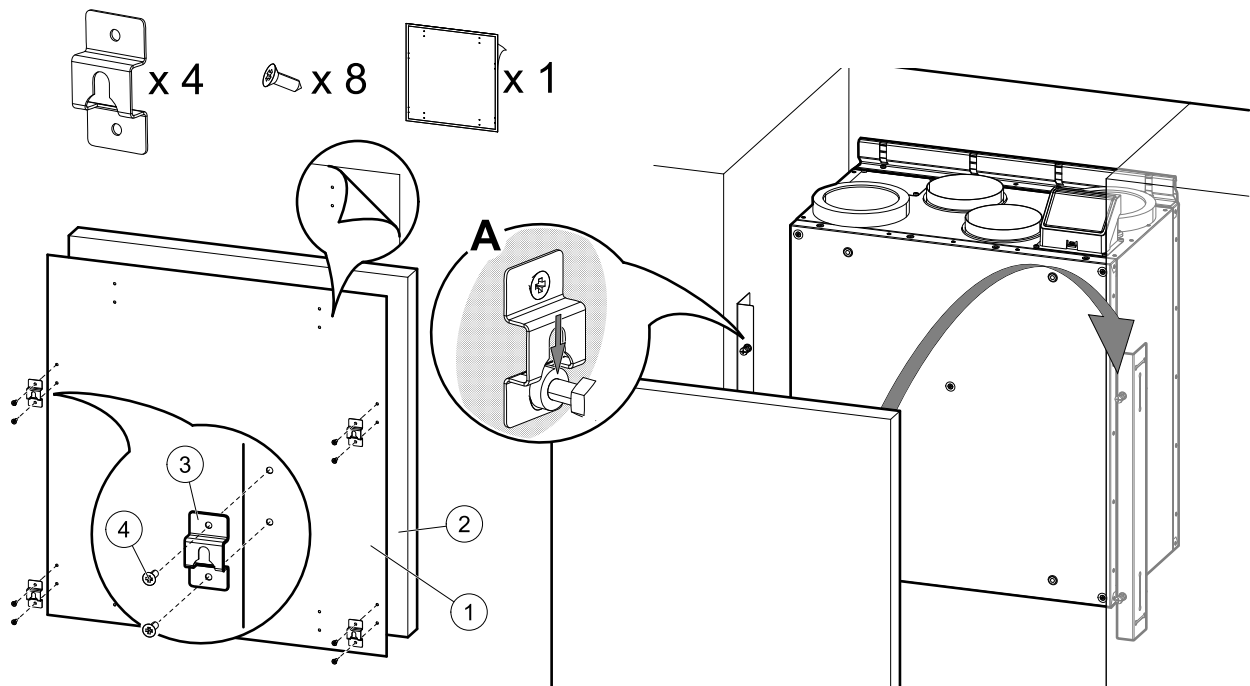

Fig. 18 Installation of hooks and mounting of the cover
2. Install four hooks near the edges on the kitchen furniture panel. Sticker with marked holes (figure 18, pos. 1) is included with the unit. Holes mark spots for screws to attach hooks. Place the sticker on a back of the kitchen furniture panel, figure 18, pos. 2). Size of the sticker is the same as the unit. Manually mark out distances from the edges in case the panel is bigger than the sticker.
Once correct position is found, attach four hooks (figure 18, pos. 3) by fastening each with two screws (figure 18, pos. 4). Hang the panel on protruding bolts (figure 18, pos. A).